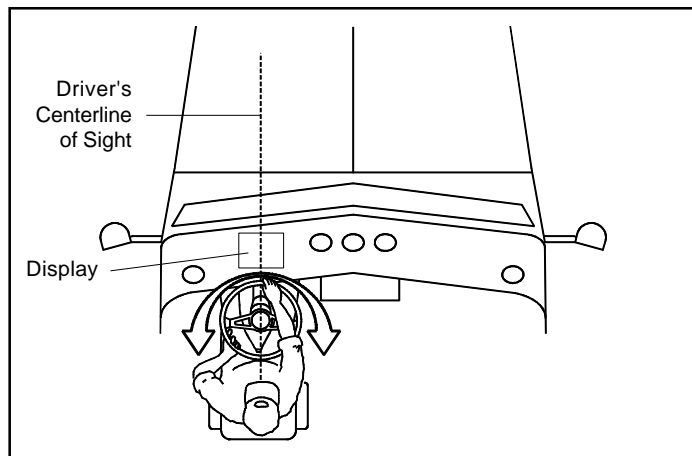

Figure 20 Driver's Centerline of Sight
3. Establish the driver's centerline of sight. See Figure 20.
3. Determine the driver's centerline of sight. Refer to Figure 20 on Page 11.
NOTE: The centerlines of the driver and the display should line up. Refer to figure 20.